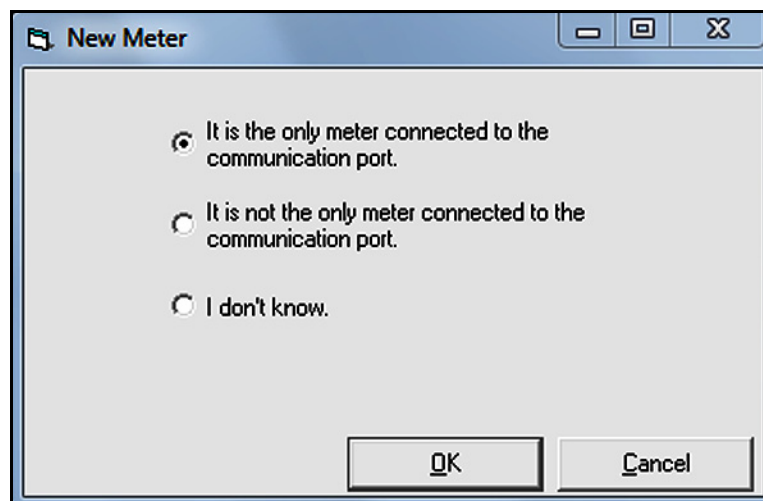

Figure 40: The Only Meter Dialog Box
8. Select the "It is the only meter connected to the communication port" radio button from the dialog box (see Figure 40 below) and then click [OK] button. In most instances, users connect their PC to one instrument only via a direct serial cable.